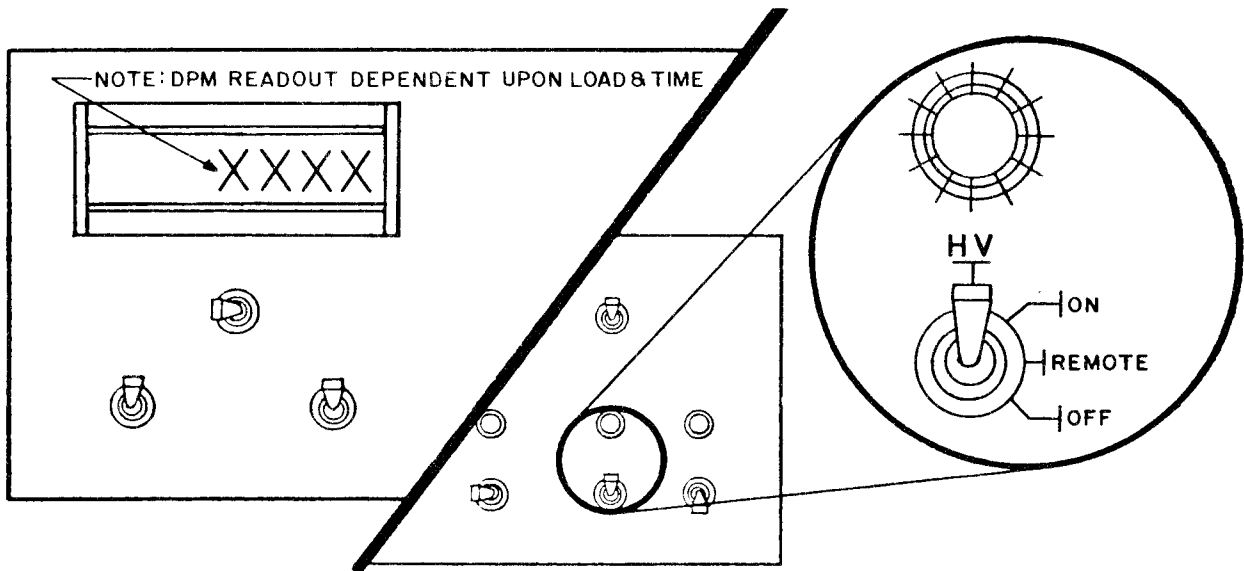

Figure 91. HV Switch to ON
- k. Wait thirty seconds after the POWER switch has been set to ON, then flip the HV switch to ON (see Figure 91). The DPM displays the magnitude of voltage between HV OUT and ground.